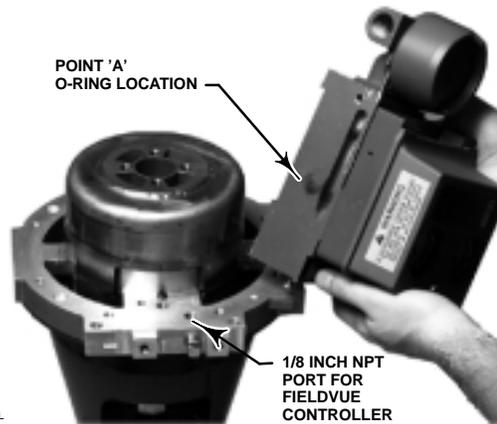

Figure 2-14. Digital Valve Controller Point of Connection (size 20 shown)
2. Install the O-ring (key 167) as shown in figure 2-14 to the mounting flange of the digital valve controller.
3. Line up the O-ring from the previous step with its associated actuator port on the power module assembly and attach the digital valve controller to the System 9000 actuator power module assembly with two cap screws (key 116). See figure 2-14.